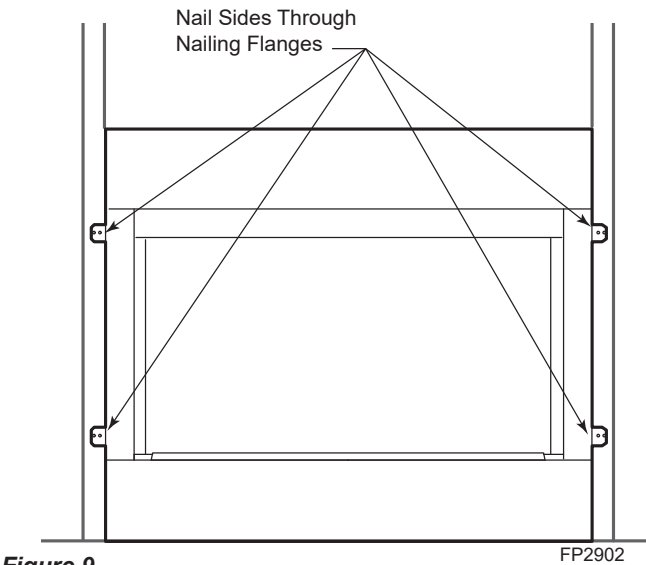

Figure 9 - Location of Nailing Flanges
- 4. Anchor firebox to the side framing members using 8d nails or other suitable fasteners. *Figure 9.*